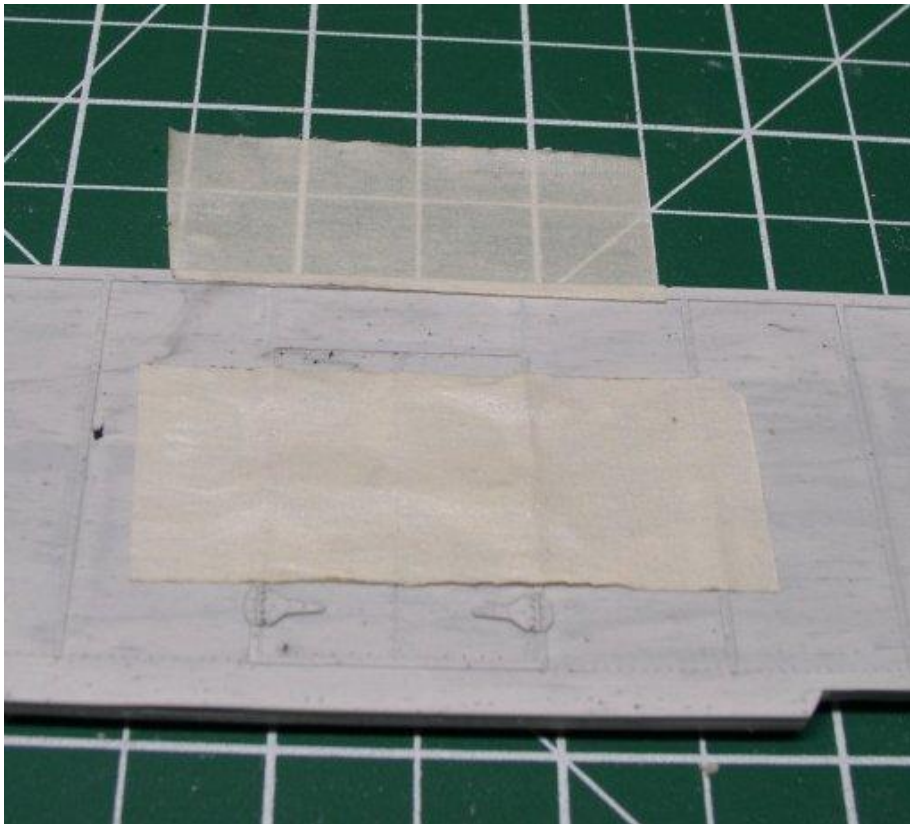

Figure B6
6. *Later Repair Patch Instructions* – Use masking tape to tape down the car side making sure you cover the top rivet strip. Run a second piece of tape to cover the tops up the uppermost hinges. This will cover the areas to protect the details as shown in Figure B6.